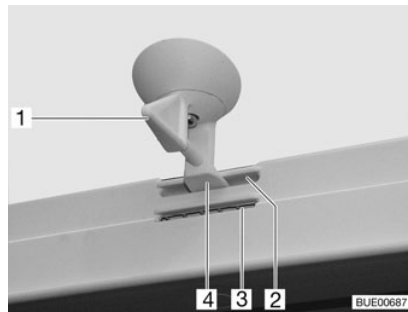
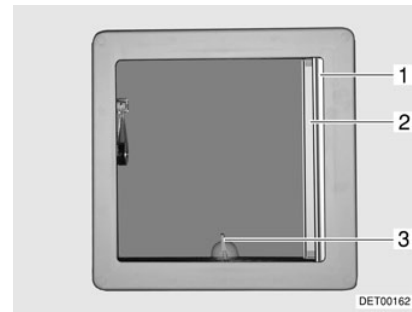

Fig. 24 Hinged skylight, lock
Fig. 25 Hinged skylight
- In order to do this, turn lever (Fig. 24,1 or Fig. 25,3) a quarter turn in an anti-clockwise direction.
- Turn the lever one quarter turn. The latch (Fig. 24,4) must slide into the lower aperture (Fig. 24,3).
- Turn the lever one quarter turn. The latch (Fig. 24,4) must slide into the upper aperture (Fig. 24,2).
- Pull out Roman shade (Fig. 25,1) and release in the required position. The Roman shade will stay in that position.
- Pull insect screen (Fig. 25,2) out until it engages with the latch on the opposite side.